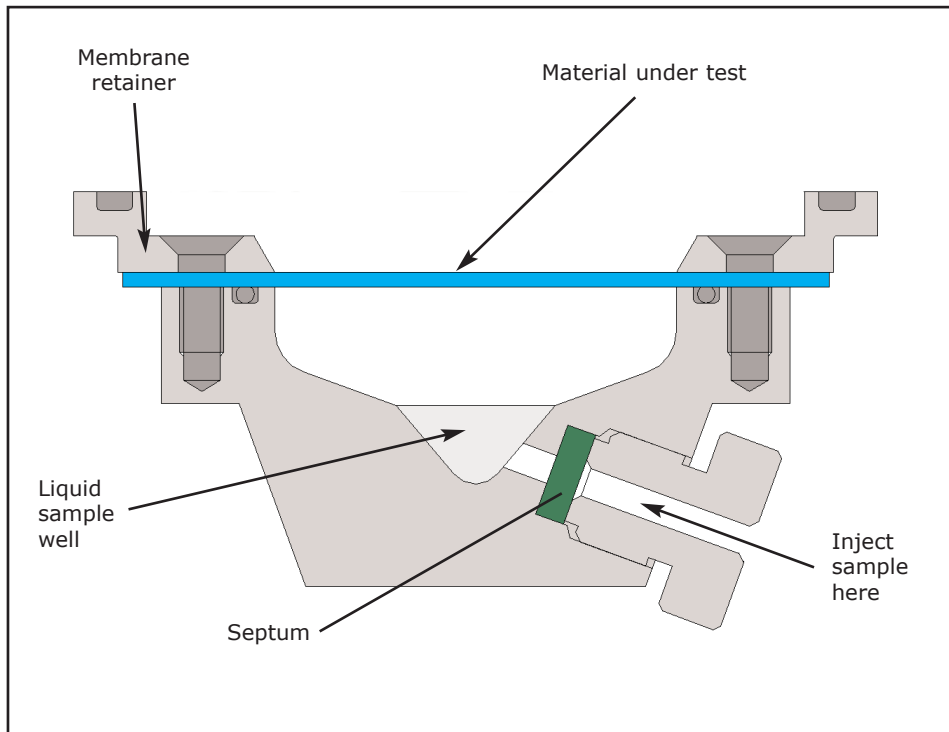

Figure 2. Cross-section schematic of the Permeation Accessory for the Micro-Chamber/Thermal Extractor depicting the liquid sample well
1. Place a septum into the septum recess (see Figure 2) and secure by screwing the retaining screw into the septum recess. Tighten retaining screw until 'finger-tight'.